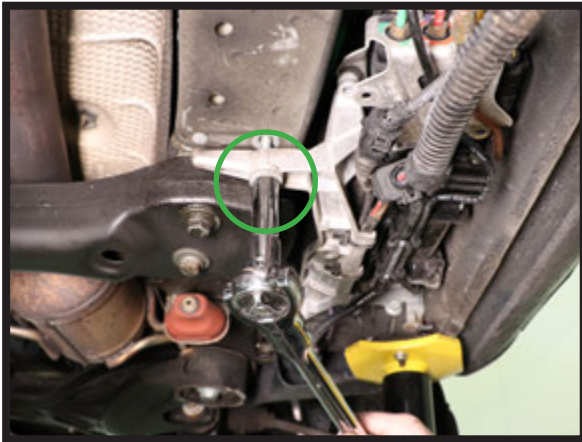

FIGURE 2
3. REMOVE THREE (3) EXTERIOR MOUNT BOLTS TO GAIN ACCESS TO VALVE BLOCK/PUMP ASSEMBLY. (FIGURES 2, 3, 4, 5)